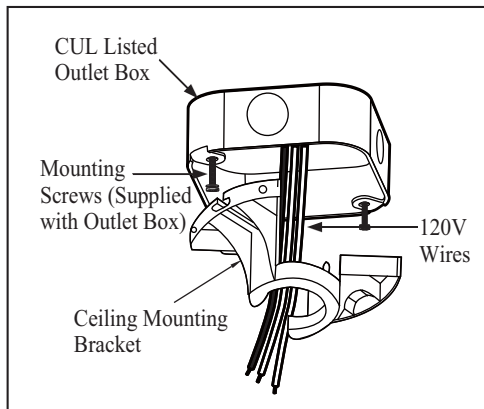

Figure 11
1. Pass the 120-volt supply wires through the center hole in the mounting bracket. (Figure 11)
2. Attach the mounting bracket on the outlet box by sliding the mounting bracket over the screws provided with the outlet box. (Figure 11) When using “close-to-ceiling” mounting, it is important that the mounting bracket be level. If necessary, use leveling washers (not included) between the mounting bracket and the outlet box. Note that the flat side of the mounting bracket is toward the outlet box. (Figure 11)